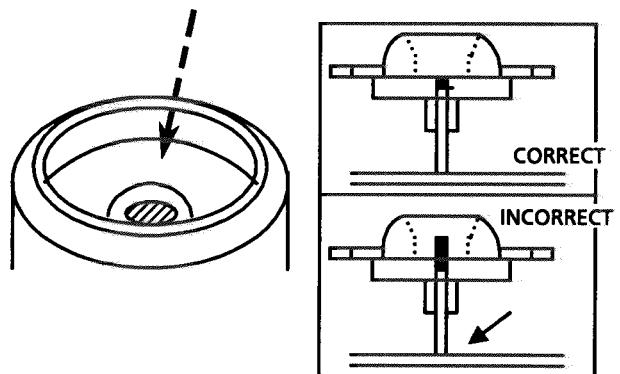

Fig. 46
- (31)** After inserting the turntable, bond the motor shaft and turntable together (at the section marked by an arrow in fig 46 on the left below).
Be extremely careful not to allow bonding agent to adhere to the motor bearing (the section marked by an arrow in fig 46 on the right).